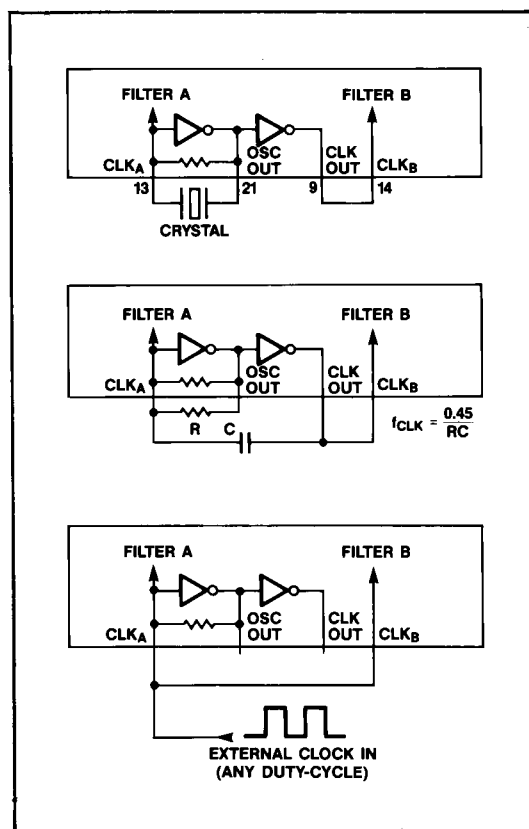

Figure 1. Clock Input Connections
The clock circuitry of the MAX265/266 operates with a crystal, external clock source, or a resistor capacitor network (RC) as shown in Figure 1. The clock rate, f_{CLK} , nominally equals $0.45/RC$ when an RC network is used, however, this relationship is not guaranteed. Consequently an RC clock is not recommended for precise filter applications.